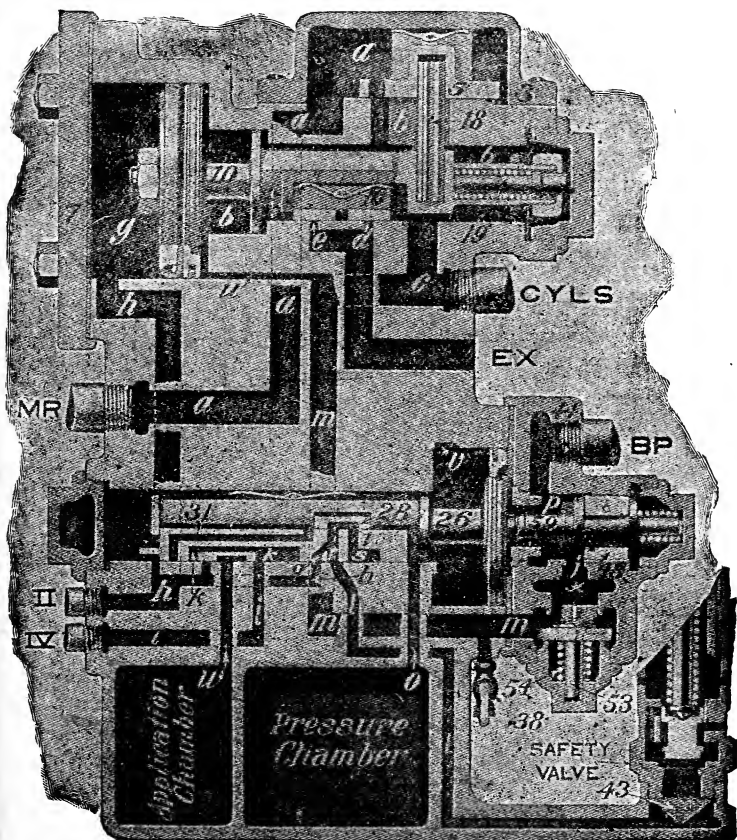
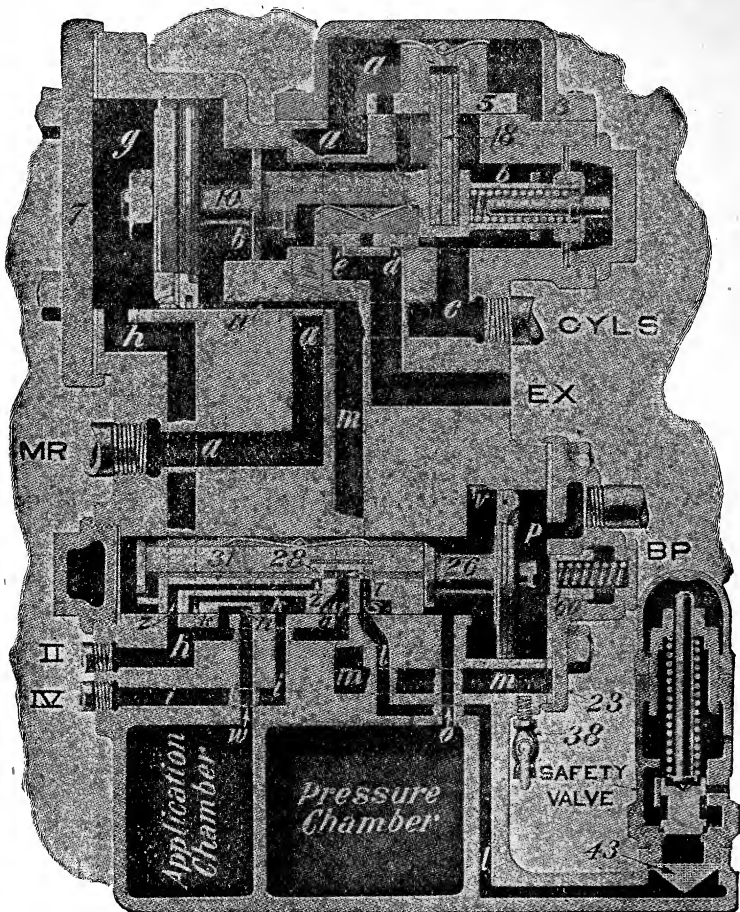

Fig. 3—Emergency Position of No. 6 Distributing Valve with Quick-Action Cap.
Fig. 4—No. 6 Distributing Valve Service Lap Position.
A. Air is admitted to the application cylinder *g* and the application chamber from the reducing valve through the independent brake valve and the intermediate pipe on the left (application chamber pipe). This pressure will force the application piston 10 to the right (see Figure 3), lapping exhaust ports *d* and *e* with exhaust valve 16, and compressing graduating spring 19 and open supply port *b* through the application valve 5 to the brake cylinder chamber *b*, which is connected to the right of the application piston, obtaining a brake cylinder pressure slightly exceeding that in the application cylinder, when it and the graduating spring 19 then moves the piston 10 and the application valve 5 back to lap position (see Figure 3). The exhaust valve 16 will remain lapped, as there is sufficient clearance between the shoulders of the piston stem and the exhaust valve to permit the application valve to return to lap without moving the exhaust valve. At the same time cavity *s* in the equalizing valve 31 registers with ports *h* and *l* in the seat, thus connecting the application cylinder port *h* to the safety valve. *The equalizing piston and slide valve do not move during an independent application of the brake.*
valve through cavity  $t$  in the graduating valve. As the piston continues its movement, the "spider" on the end of the piston stem engages the slide valve 31, which is then moved to the right until the supply port  $z$  in the equalizing valve registers with the application cylinder port  $h$  and through cavity  $n$  in the equalizing valve with application chamber port  $w$  in the seat. This permits the air in the pressure chamber to expand into the application cylinder. At the same time the safety valve is connected to the application cylinder and chamber by registering ports  $r$  and  $s$  in the equalizing valve with ports  $h$  and  $l$  in the seat and through the cavity  $t$  in the graduating valve, see Fig. 4. The amount of pressure obtained in the application cylinder and chamber depends upon the brake pipe reduction made. When the pressure in the pressure chamber is slightly reduced below that in the brake pipe, the piston and graduating valve are forced to the left until the collar on the piston stem comes in contact with the equalizing valve. This position is known as the "service lap," see Fig. 4. In this position the graduating valve has lapped port  $z$  between the pressure chamber and the application cylinder and has also lapped the safety valve port  $l$ . The air that expanded into the application cylinder and chamber will force the application piston 10 to the right, lapping the exhaust ports  $d$  and  $e$  with the exhaust valve 16, compressing graduating spring 19 and opening the supply port  $b$  through the application valve 5 to brake cylinder, as already explained.
below that in the pressure chamber on the opposite side of the piston. The considerable difference in pressure thus created on the two sides of equalizing piston 26 is sufficient to move it to its extreme position to the right, compressing graduating spring 46, see Fig. 3. In this position port *h* is open directly to the chamber above equalizing valve 31, past the end of the valve, so that air from the pressure chamber flows through port "o," through the chamber above equalizing valve to port "h" and the application cylinder "g." The application port *w* is blanked by the equalizing valve, 31 and the safety valve port *l* is connected through port *r* and restricted port *q* in valve 31 to port *h* of the application cylinder. The air that expanded into the application cylinder from the pressure chamber will force the application piston 10 to the right opening the application valve 5 as in service application and obtaining cylinder pressure equal to that in the application cylinder, when the application valve will lap.
Fig. 3), closing the exhaust ports and allowing air from the main reservoir branch pipe to flow to the brake cylinders until brake cylinder pressure becomes equal to that in the application cylinder, regardless of what the piston travel is, the number of cylinders, or the amount of leakage. When this pressure has been obtained, if brake cylinder leakage exists, the drop in cylinder pressure will reduce the pressure in chamber *b* on the right of piston 10 below that in application cylinder *g* on the opposite side of the piston. This will cause application piston 10 to again move to the right, opening application valve 5 and allowing air to flow from the main reservoirs to the brake cylinders until the brake cylinder pressure again equalizes with that in the application cylinder, when the application piston 10 and supply valve 5 will move to lap position (see Fig. 4). This action will continue indefinitely until the brakes are released.